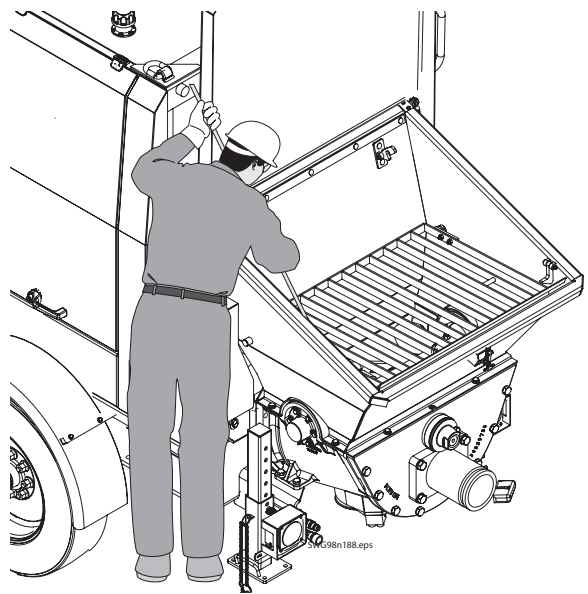

Figure 25
- Poke any material that has set in the corners of the hopper with a piece of rebar or another stiff, long bar (Figure 25). Do not remove the hopper grate for this clean out procedure. This procedure must be done with the hopper grate in place. **Do not spend too much time on this procedure, or the concrete will have time to set up in the rock valve and material cylinders.**